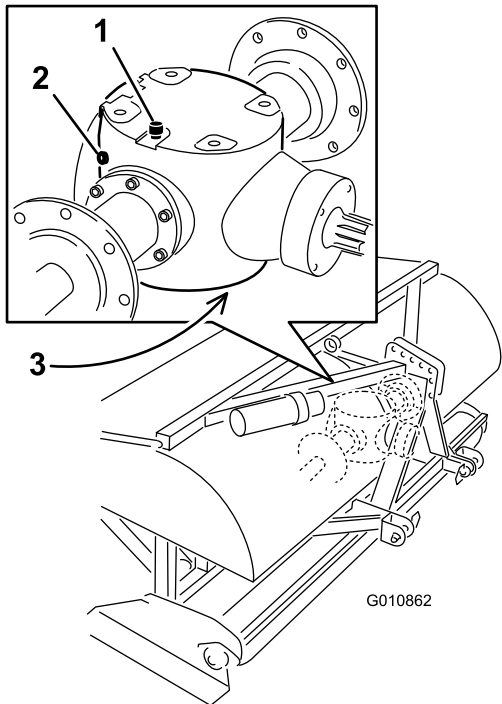

Figure 47
- 2. Remove the check plug from the gearbox (Figure 47).
- 3. Ensure that oil is up to the bottom of the check plug hole in the gearbox (Figure 47).
- 1. Clean debris from vent/fill plug and drain plug to avoid contamination (Figure 47).